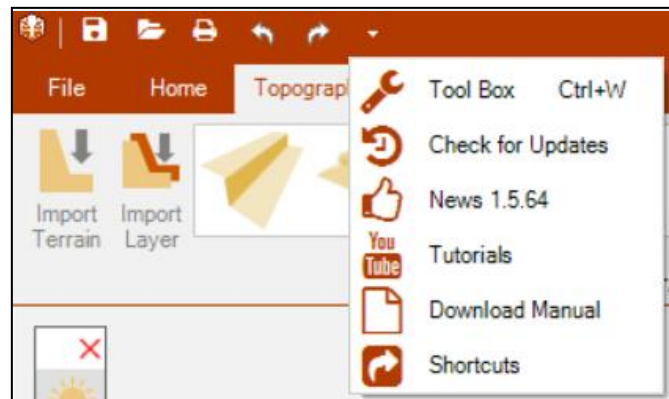

Fig. 12 - Option inside of quick access bar
- Open toolbox, check for updates and news, tutorials, download the manual and see the list of shortcuts (Fig. 12).